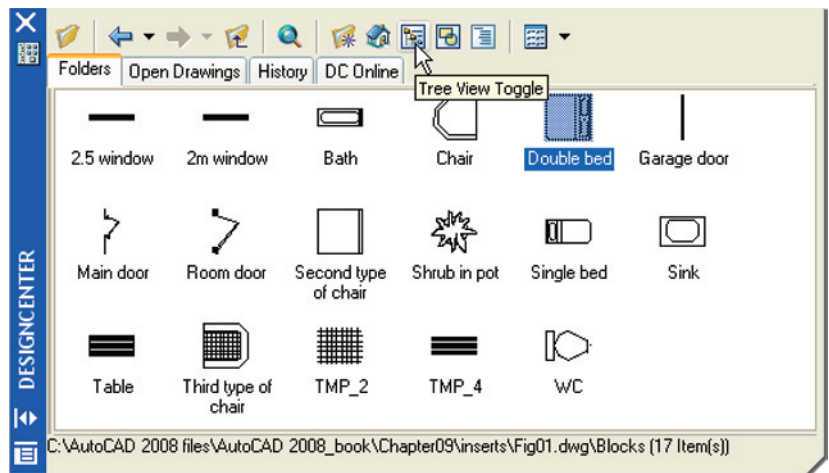

Fig. 9.12 The results of a *click* on **Tree View Toggle**
- (a) **Tree View Toggle** – changes from showing two areas – a **Folder List** and icons of the blocks within a file – to a single area showing the block icons (Fig. 9.12).